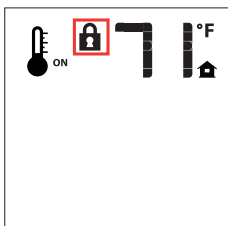

Figure 16 - Remote Control Displaying Key Lock Mode
1. To activate this function, press the MODE and UP keys at the same time. A lock icon will appear on the LCD screen (see Figure 16).